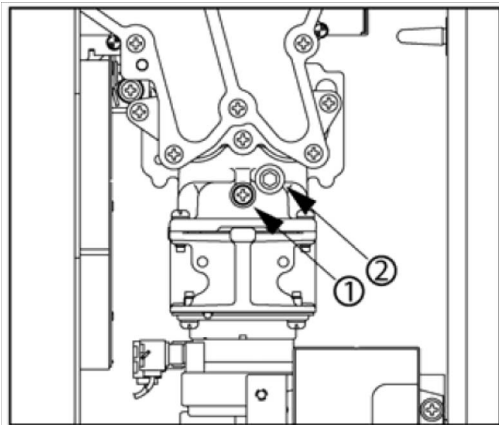

Fig. 5
- ▶ 5. The manifold pressure will also have to be checked using a manometer (digital manometer is suggested). In order to check the gas manifold pressure, two taps are provided on the gas valve inside the unit (Fig. 5). The pressure can be checked either by removing the hex head Philips screw and connecting a manometer with a silicon tube, or by removing the 1/8" NPT screw with an Allen wrench and connecting the appropriate pressure gauge. Be sure to zero out the manometer before attaching it to the tap.